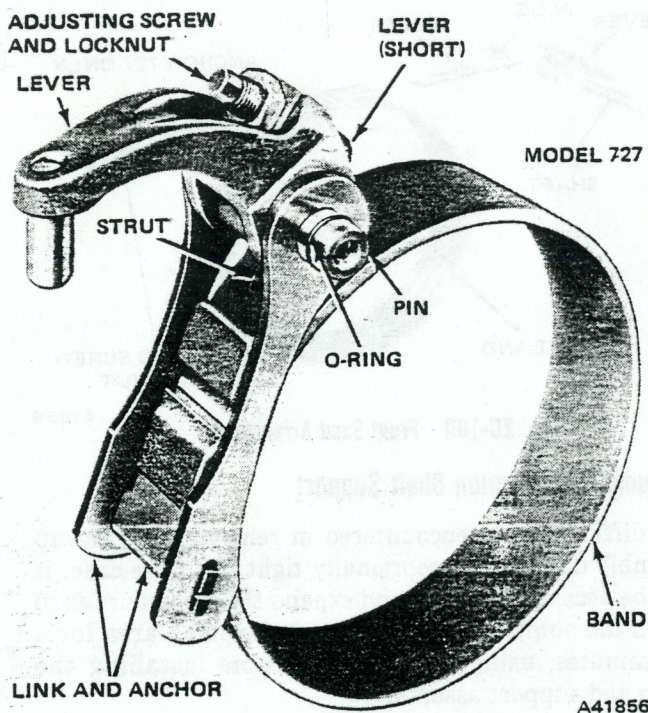

Fig. 2C-97 Rear Band—Model 727
- (5) Install low-reverse drum in overrunning clutch hub and rear band.
**NOTE:** Model 904 has a single wrap band. Model 999 transmission has a double wrap band supported at two points by a reaction pin mounted in the case. It is actuated at one point by the rear servo adjusting screw (fig. 2C-98).